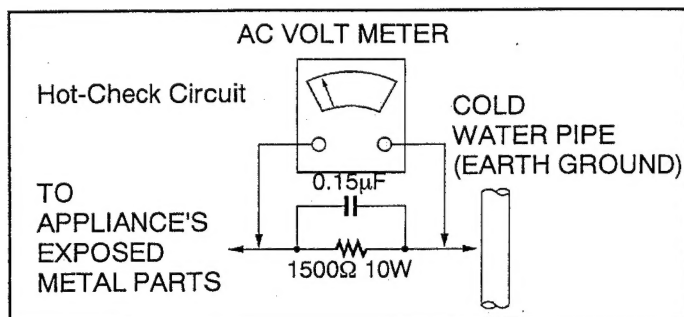

Figure 1
## LEAKAGE CURRENT HOT CHECK (See Figure 1)
2. Connect a  $1.5\text{k}\Omega$ , 10W resistor, in parallel with  $0.15\mu\text{F}$  capacitor, between each exposed metallic part on the set and a good earth ground such as a water pipe, as shown in Figure 1.